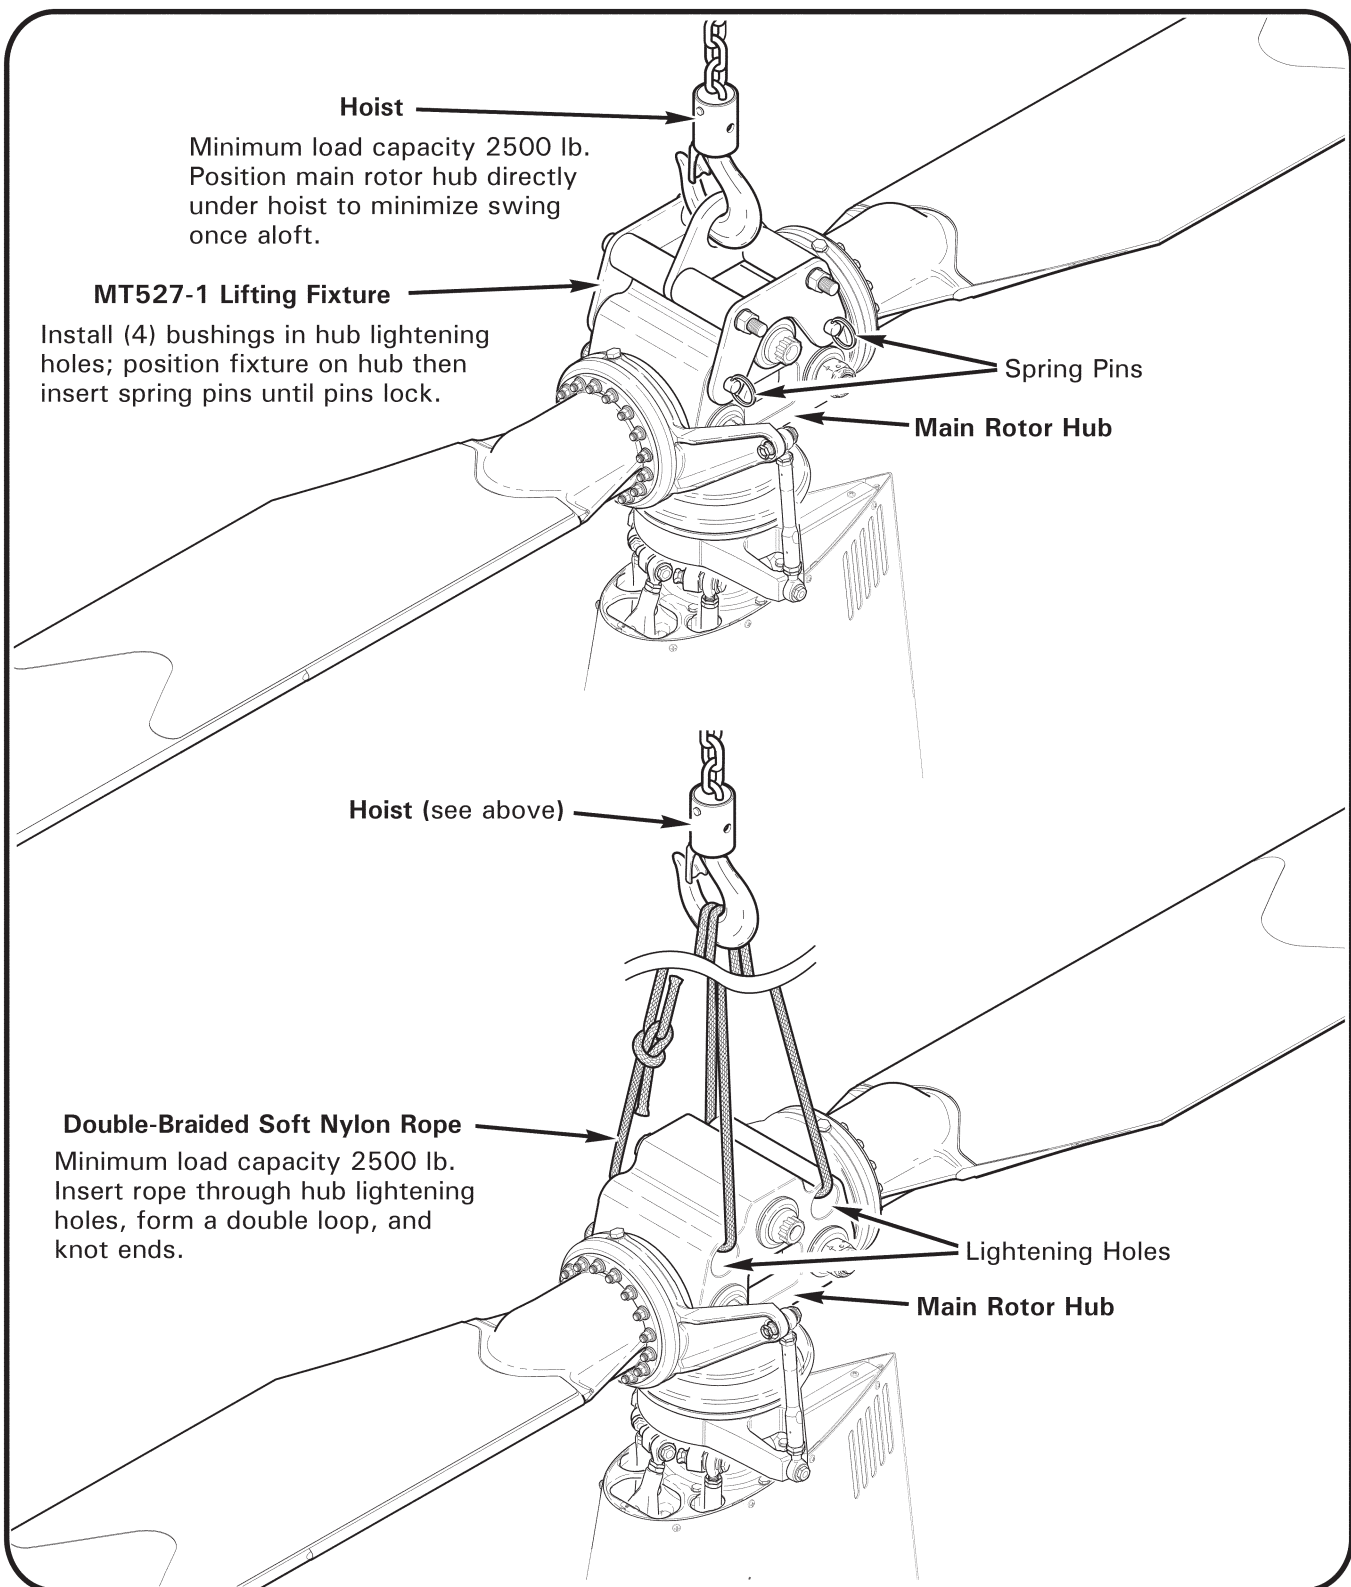

FIGURE 17-2 HOISTING
1. Refer to Figure 17-2. Verify hoisting equipment has minimum load capacity of 2500 lb.
1. Refer to Figure 17-2. Verify hoisting equipment has minimum load capacity of 2500 lb. Verify minimum work load limit for 1-inch diameter twisted or double braided (preferred) soft nylon rope is 2500 lb.
1. Refer to Figure 17-2. Stabilize helicopter as required by guiding tail skid, but do not exert force (tail skid is secondary structure). Slowly lower aircraft to ground.